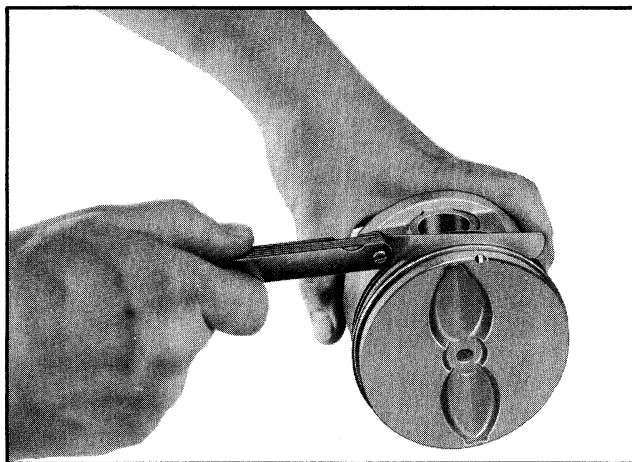

Fig. 6-149 Measuring Ring to Groove Side Clearance
5. Measure side clearance of rings in ring groove (Fig. 6-149) as each ring is installed. Clearance with new pistons and rings should be as follows: